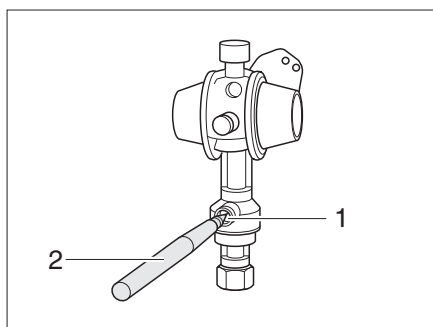

Fig. 92 Crash sensor
- Press in the release button (Bild 92,1) with a pin (Bild 92,2) for several seconds.